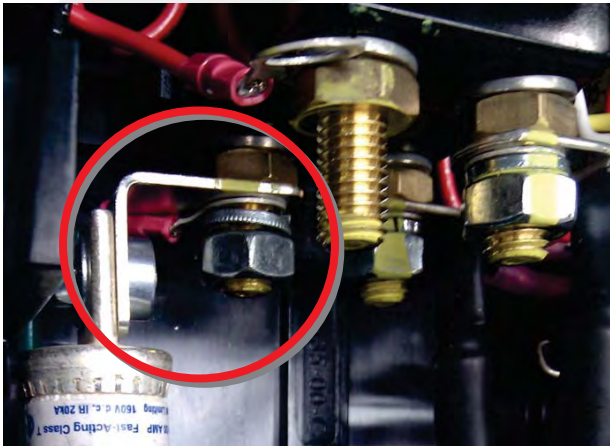

Figure 6
11. Note the date code on both removed fuses and add them to the repair order notes. The code is printed above the manufacture location (Figure 6).